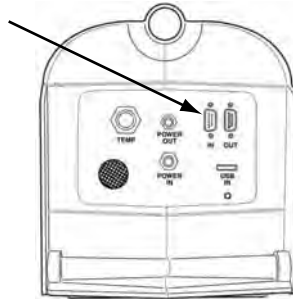

Figure 2-13 RS232 IN serial port
1. Connect the long serial communications cable (provided with your FGA unit) to the connector labeled RS232 IN on the connection panel (Figure 2-13).